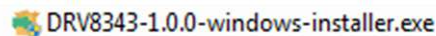

Figure 8. DRV8343-Q1 Firmware Installer Executable File
- Step 1. Double click the executable file (.exe) for the DRV8343-Q1 reference software installer (see Figure 8).